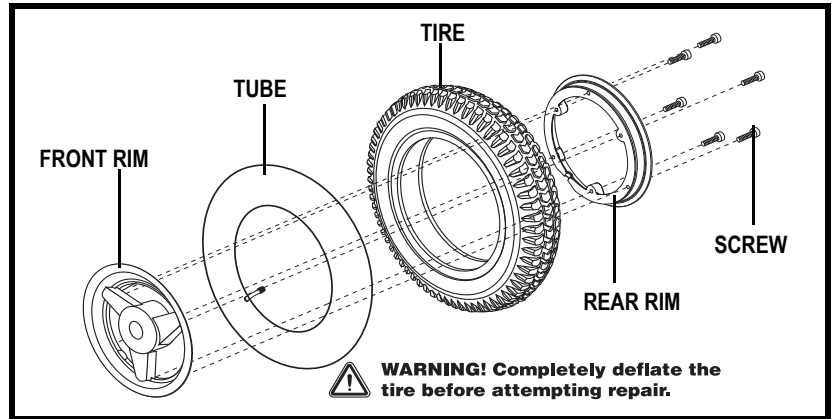

Figure 25. Drive Wheel Disassembled
6. Remove the screws from the rim assembly and separate the front and rear rim. See figure 25.